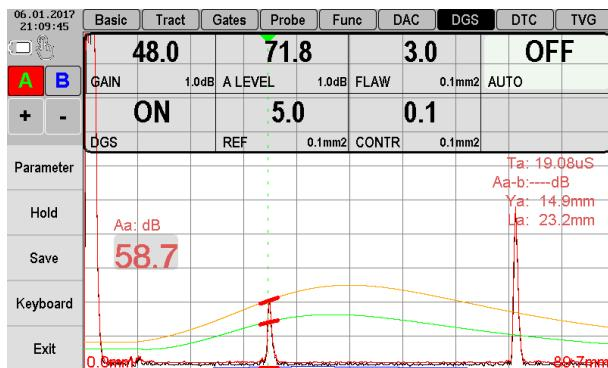

Figure 2.61 – DGS curve plotting - «AUTO» parameter is turned on
6. Turn on the automatic DGS curve plotting by selection «ON» in «AUTO » parameter. The device automatically determines reference signal amplitude. Also, reference signal amplitude user can input manually via «A Level» parameter (Figure 2.61).